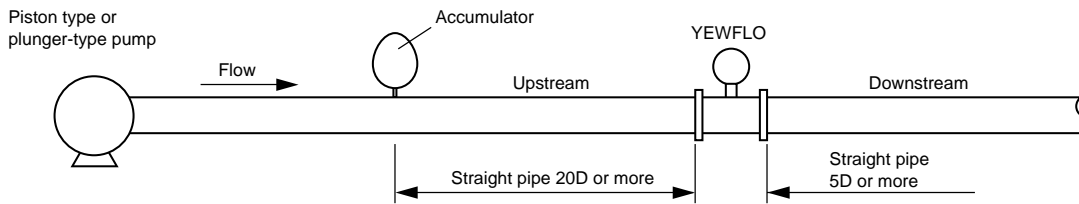

Figure 9.1.4
- (4) Piston-type or plunger pump; Install the accumulator on the upstream side of YEFWLO to reduce fluid vibrations. (Refer to Figure 9.1.4)